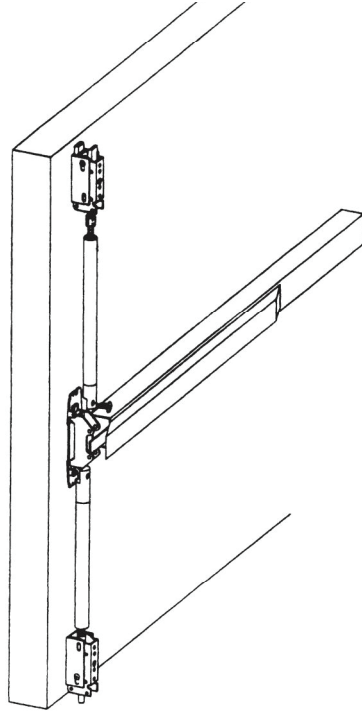

Figure 12
- e. Tighten top rod connector onto the bit glide plate (upper side). (See Figure 12.)